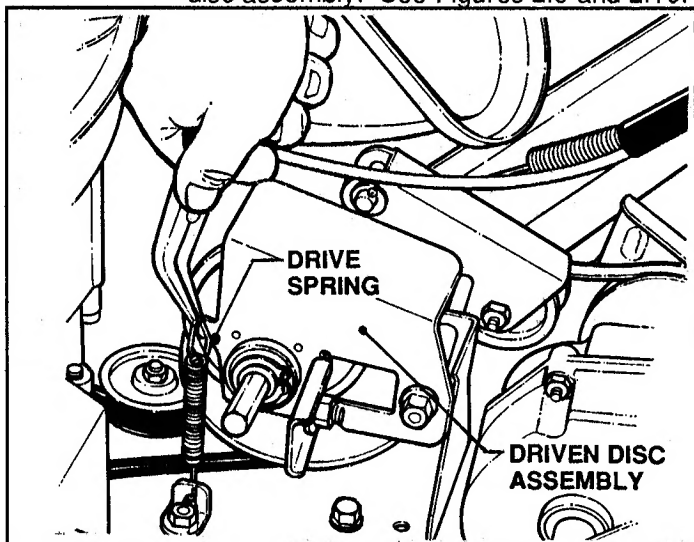

FIGURE 2.9
3. Disconnect drive spring from driven disc assembly. See Figure 2.9.
2. Unhook drive spring and remove the driven disc assembly. See Figures 2.9 and 2.10.